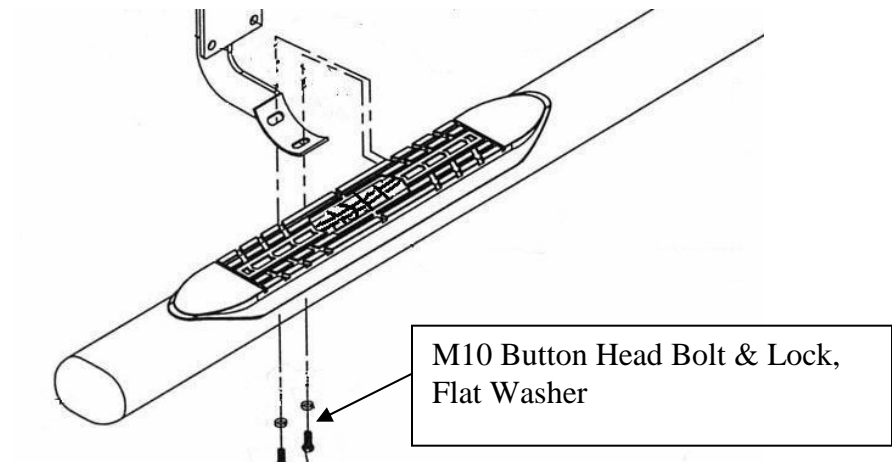

Figure 3. Installation View of Bracket & Bar
5. Assemble with M10 button head bolts and M10 washers. 2 bolts per bracket, 4 bolts per bar (**see Fig 3**). Hand tighten.